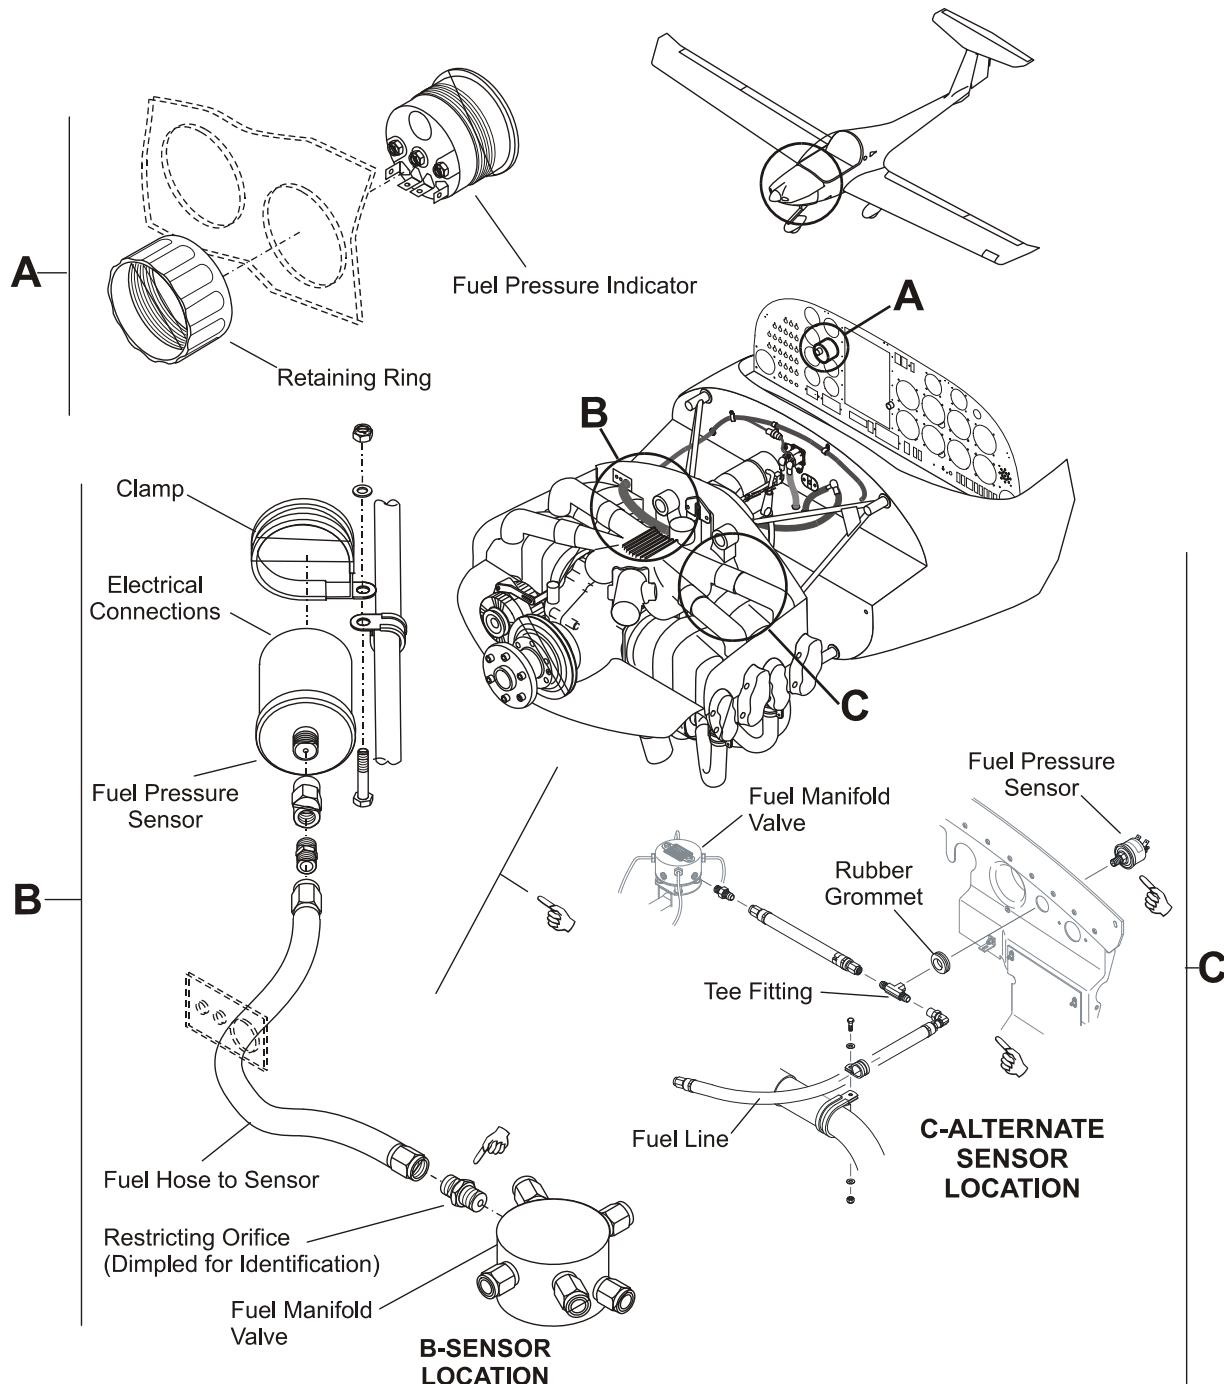

Figure 201 - Location and Installation of the Fuel Pressure Sensor
4.	Connect the fuel pipe to the sensor. For aircraft with the fuel pressure sensor installed through the aft baffle (refer to Figure 201, Detail C), remove the pressure sensor from the tee fitting.